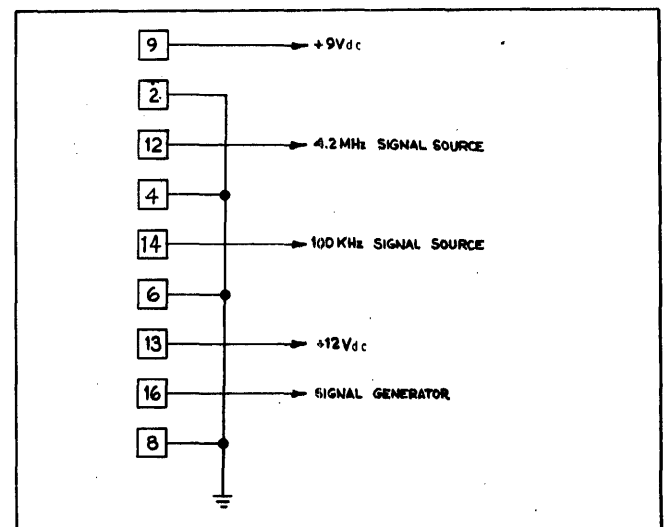

FIGURE 4-34 TEST CONNECTOR WIRING (FIM-3)
a. See Figure 4-34 for schematic of test connector wiring.